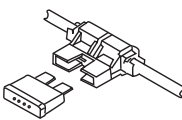

Figure 8
5. Insert 20 amp ATO fuse supplied and seat it firmly in the fuse tap. It can take some pressure to seat. (Fig. 8)